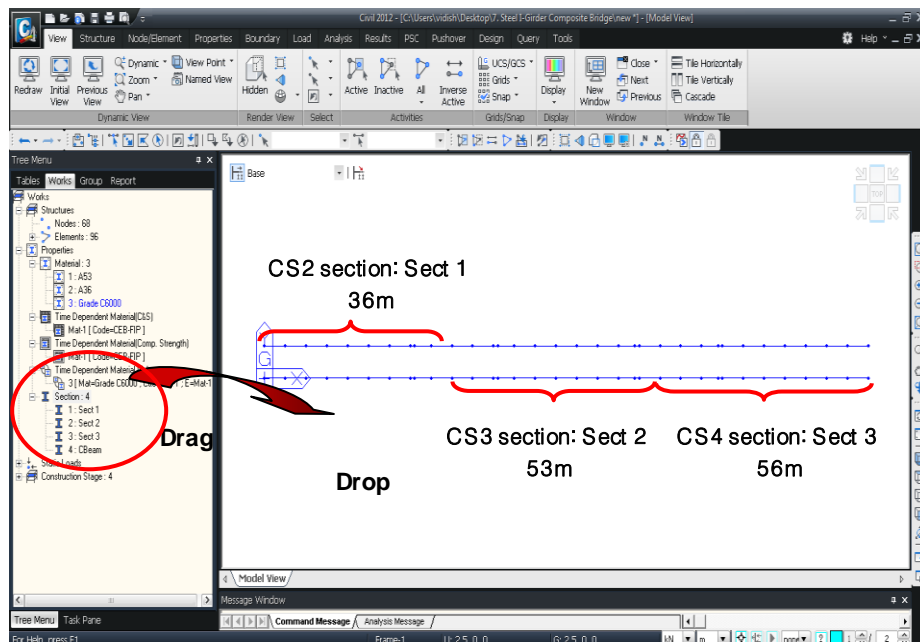

Figure 15. Different Section Names assigned to each part of the section
The distance between the nodes consecutively queried can be easily checked with Query Nodes (Figure 15 ①).